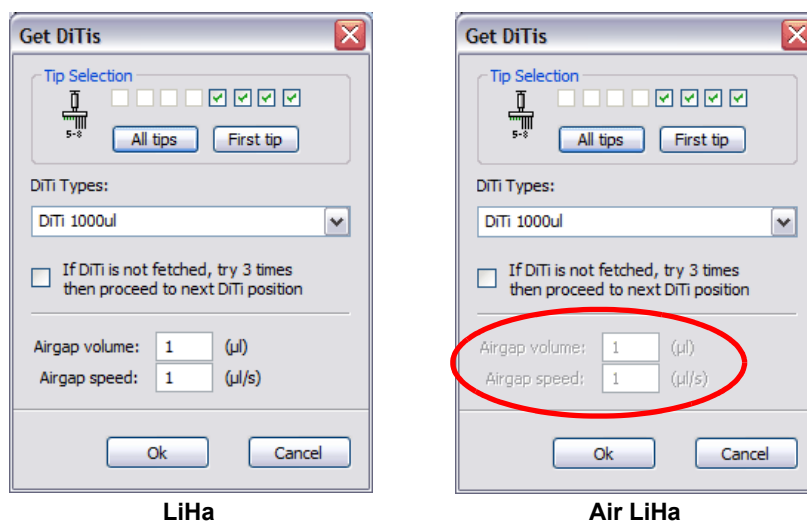

Fig. 15-7 Get DITIs command
**Note:** *Airgap volume* and *Airgap speed* are deactivated for the Air LiHa (see Fig. 15-7, 15-14)